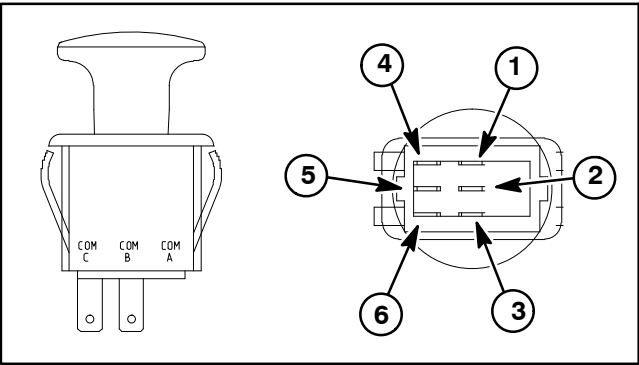

Figure 31
4. The switch terminals are marked as shown in Figure 31. The circuit logic of the PTO switch is shown in the chart below. With the use of a multimeter (ohms setting), the switch functions can be tested to determine whether continuity exists between the various terminals for each switch position. Verify continuity between switch terminals. Replace switch if testing identifies that switch is faulty.